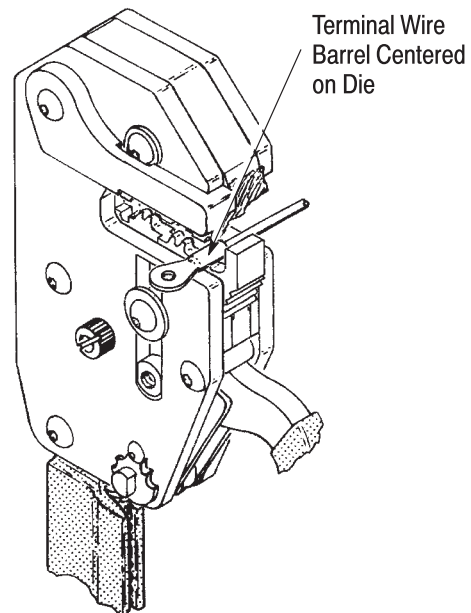

Figure 2
2. Center terminal (or splice) in dies, as shown in Figures 2 and 3.
4. Insert properly stripped wire into terminal (or splice) wire barrel, as shown in Figures 2 and 3.